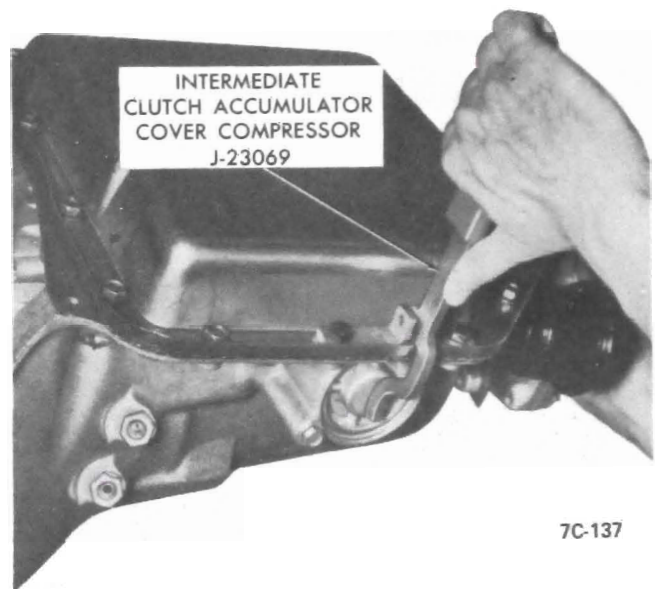

Figure 7C-77
2. cover and "O" ring seal from case. See Figure 7C-78.